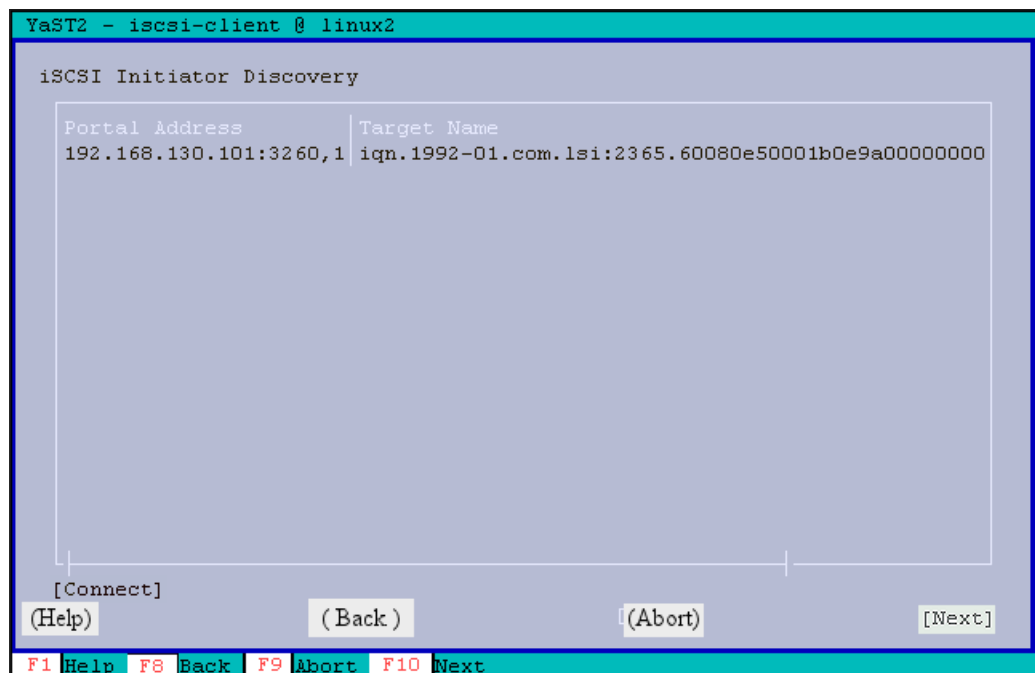

Figure 20-21 Select Connect to login
7. Select Connect to log in to the iSCSI storage as shown in Figure 20-21.